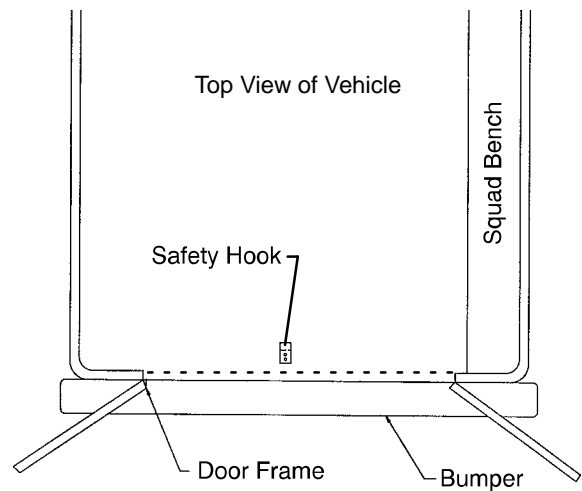

Figure 4b – Safety Hook Placement
4. Mark the position of the safety hook on the patient compartment floor. The safety hook should be installed as close as possible to the rear of the vehicle while allowing the vehicle doors to close (Figure 4b). Be sure the bumper and bumper step don't interfere with the folding and unfolding of the cot's undercarriage.